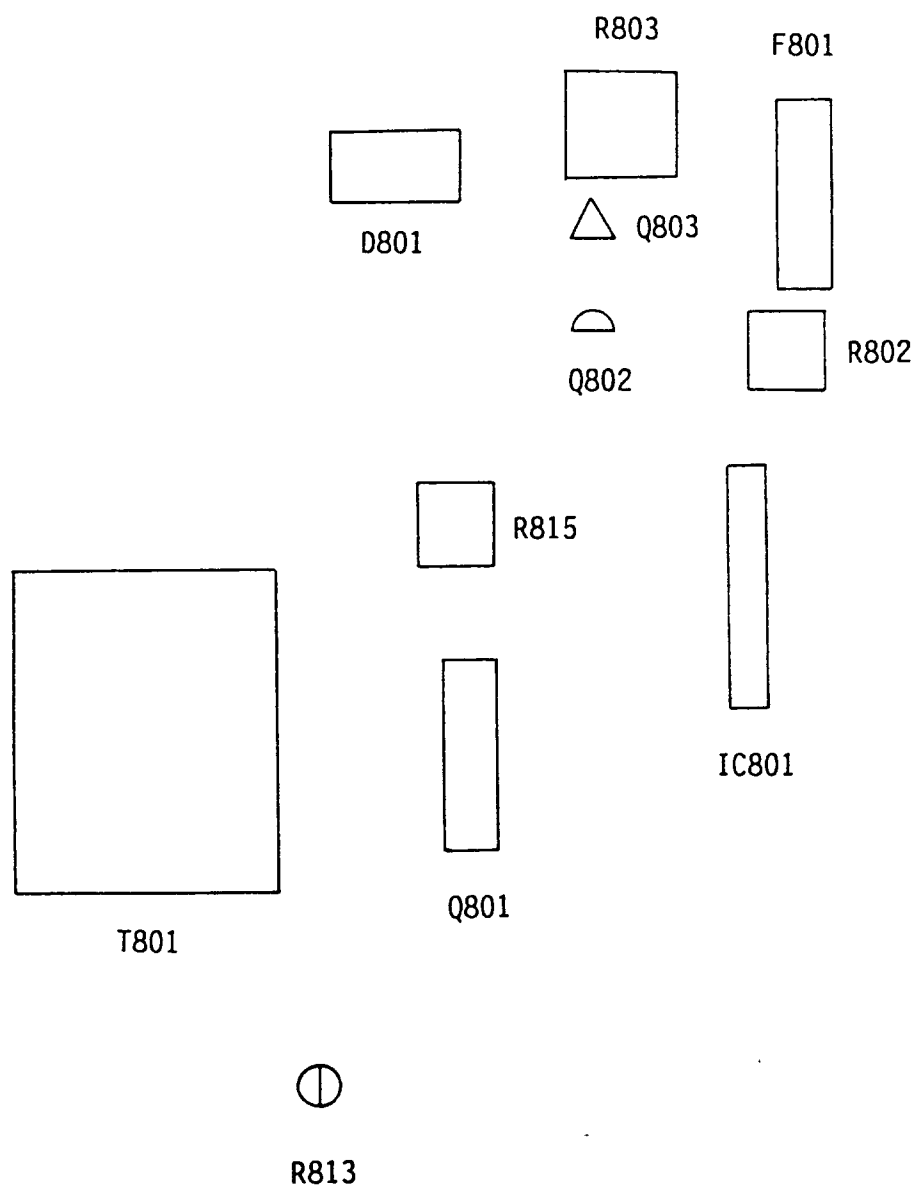

Fig 4-4 PCB-POWER adjustment and test location
- (4) PCB-POWER adjustment and test location. (See Fig 4-4)